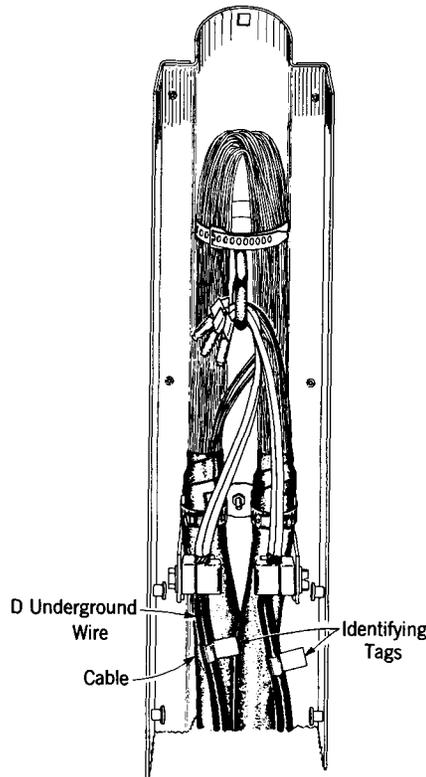

Fig. 7 – D Underground Wire in D Cable Closure
2.16 Skin the insulation from the underground wire for about 1-inch and connect to the cable pair using B Wire Connectors. After the splice is made, the end of the connector and the wire should be wrapped with a short piece of vinyl tape to insulate the bare conductor. A completed installation is shown in Fig. 7.